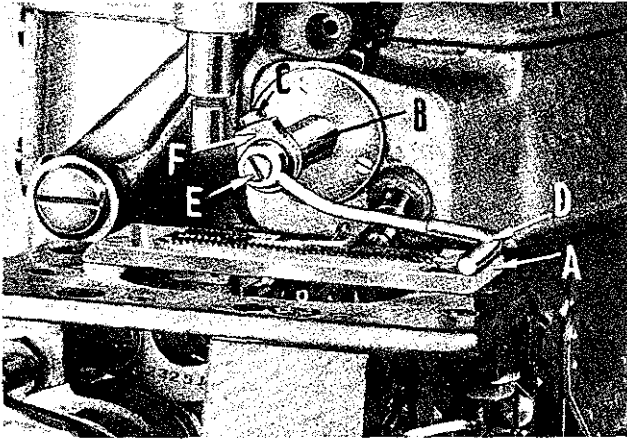

Fig. 5
Mount throat plate (A, Fig. 5) on machine. Turn handwheel in operating direction until spreader bar (B) is in the extreme left position. Loosen collar screw (C) and insert spreader gauge 21227 BX (D) in spreader bar and line up the front edge of the spreader gauge with the front edge of the throat plate and tighten clamp screw (E). Move spreader holding block (F) in or out of spreader bar until the left edge of the spreader gauge is in line with the left edge of the throat plate. Tighten collar screw (C).